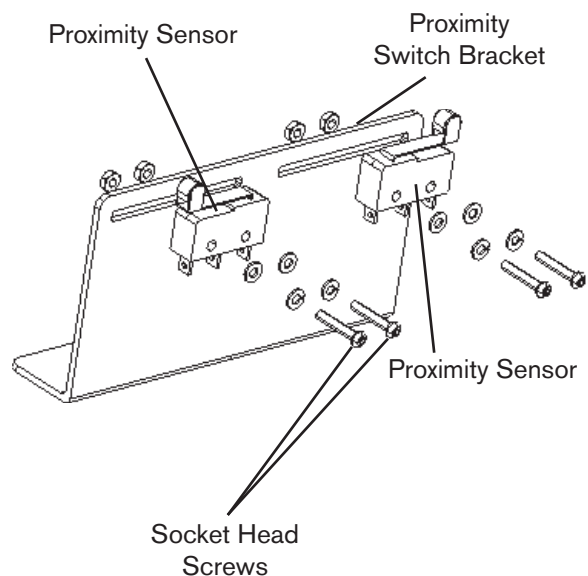

FIGURE 7
1. Loosen the Socket Head Button Screws holding the Limit Switch Brackets and slide the Limit Switches to their fully extended positions (See Figure 7).
4. Connect a voltmeter across Terminals 1 and 2 of the Limit Switch (See Figure 7) that will limit the web guide movement in the direction just moved.
6. Tighten the Limit Switch's Socket Head Button Screws (See Figure 7).